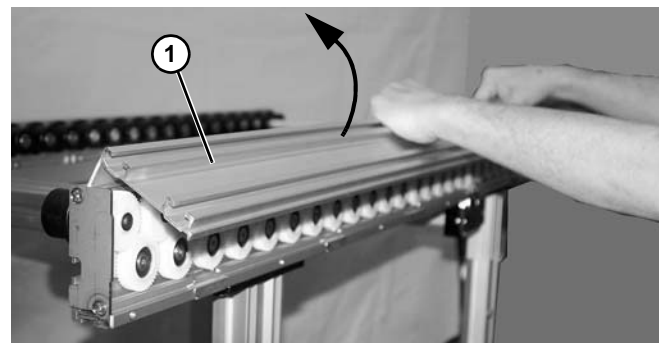

Figure 115
2. Rotate and remove side cover (Figure 115, item 1) from conveyor frame